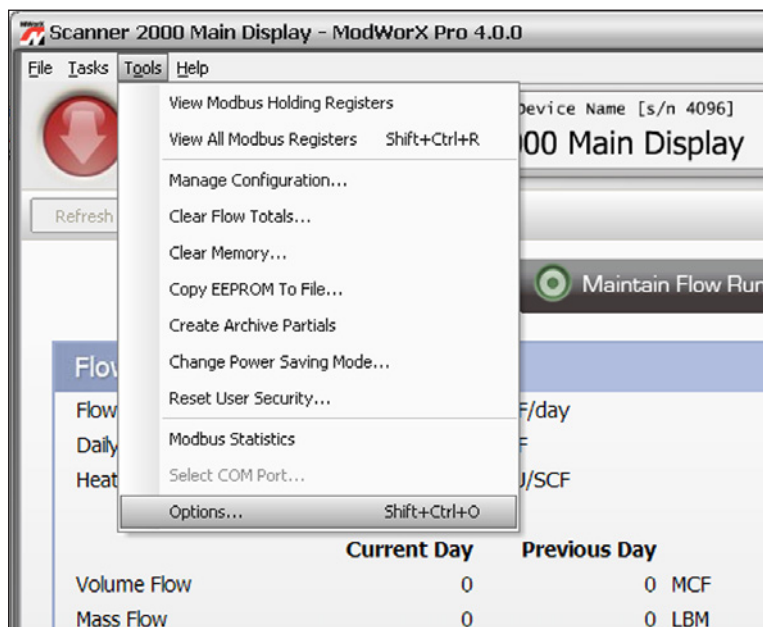
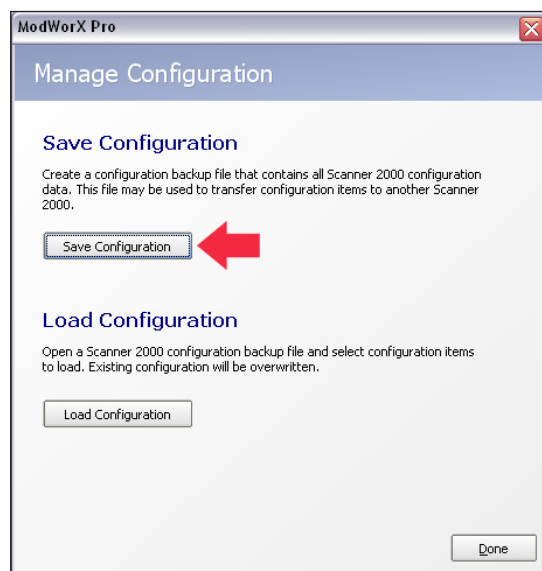
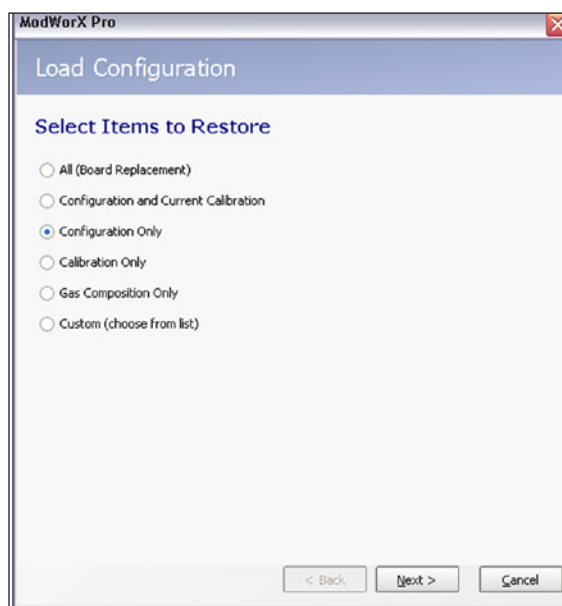

Figure A.1
Figure A.2
Figure A.3
In addition to the standard configuration settings provided in the Configure menu, ModWorX Pro allows users to customize software functions using settings found in the Tools menu. The Tools menu is located in the task bar at the top of the screen (Figure A.1).
1. Click on **Tools>Manage Configuration** (Figure A.1, page A-1). A dialog will appear (Figure A.2).
2. Click the **Save Configuration** button (Figure A.2). A screen will appear, displaying a default filename (for example, Device\_Name\_20070803\_0002.srf) and file location. The default file location is C:\NuFlo Log Data\ModWorX Pro\<Field\_Name>\<Site\_Name>.
1. Click on **Tools>Manage Configuration** (Figure A.1, page A-1) and click **Load Configuration**. The Load Configuration dialog shown in Figure A.3 will appear.